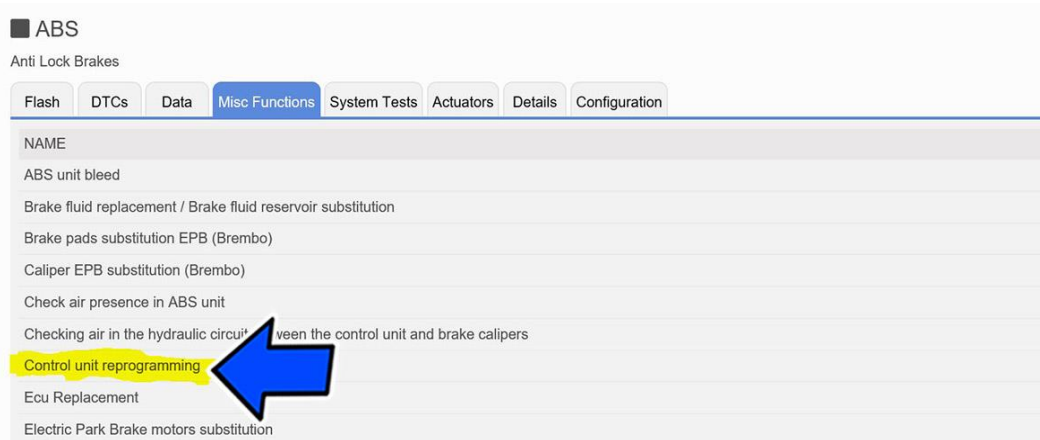

Figure 26 - Control Unit Reprogramming
- From the ABS “Misc. Functions” tab, select and run the “Control Unit Reprogramming” routine (Figure 26).